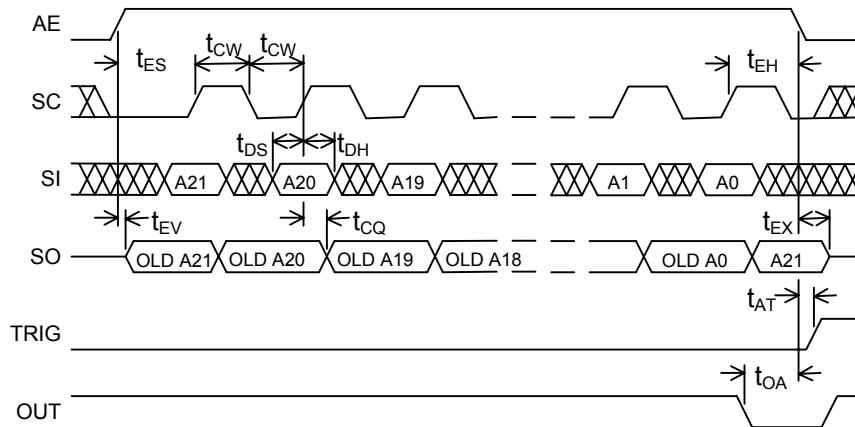

Figure 4: Address Update
While observing data setup ( $t_{DS}$ ) and data hold ( $t_{DH}$ ) requirements, timing data is loaded in MSB-to-LSB order by the rising edge of the clock (SC) while the enable (AE) is high, as shown in Figure 4. The falling edge of the AE activates the new pulse width value, which is reflected at the output upon the next trigger.